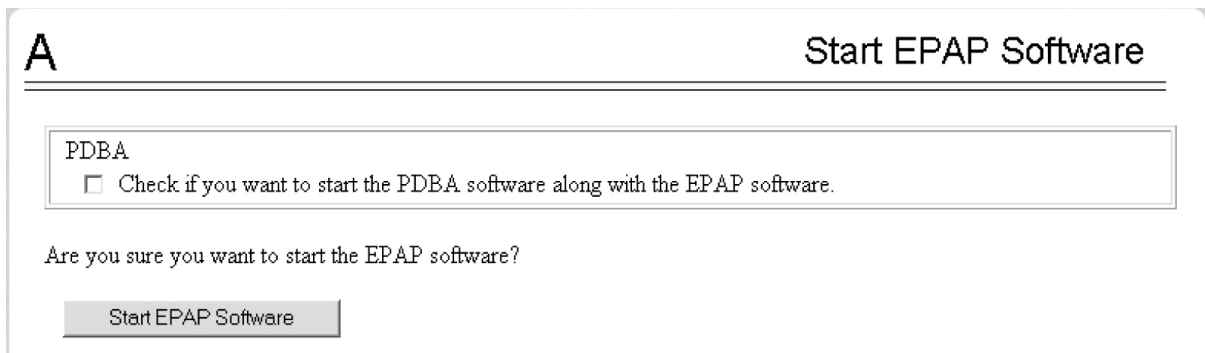

Figure 14: Start EPAP Software
10. On the Start EPAP Software screen shown in Figure 14: Start EPAP Software, click **Start EPAP Software**.